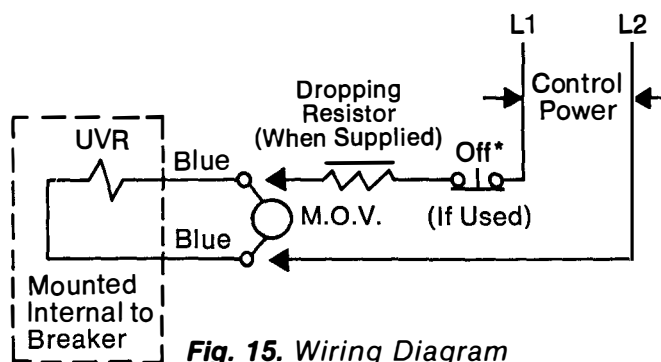

Fig. 15. Wiring Diagram
12. Mount the dropping resistor (when supplied) and M.O.V. (Fig. 14). Wire as shown in Fig. 15.